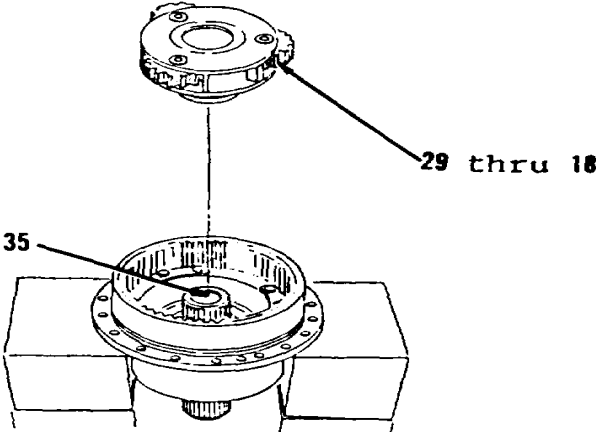

Figure 5-142.
- 12. Turn over items 29 thru 18 as an assembly and install over shaft (35, Figure 5-142).